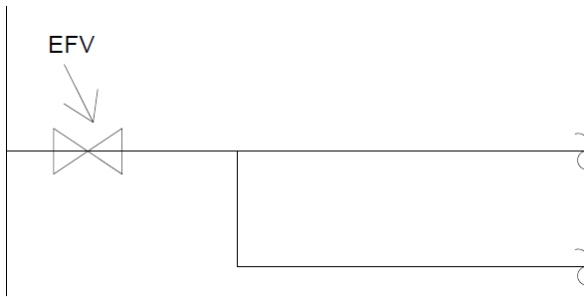

Figure 1: Branched Service Line
- (1) Install one EFV on the mother service as close as practical to the gas main, having designed the EFV with adequate capacity and protected length for both mother and branch. See Figure 1.